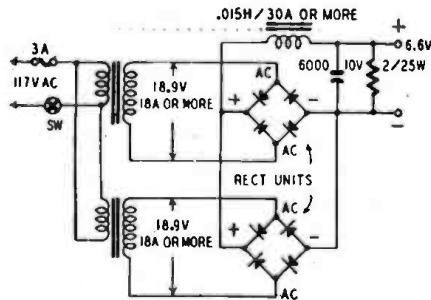
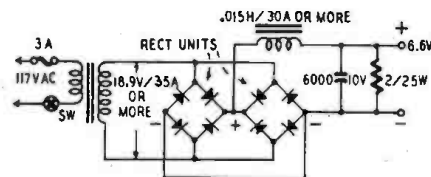

Fig. 1—Paralleled outputs supply 40 amperes.
Fig. 2—Rectifier has single input and output.
**A.** Since each of the rectifier units you have will deliver only 20 amperes, it is necessary that you connect them in parallel, it is recommended that they be operated from separate transformers and their outputs connected in parallel as shown in Fig. 1. With this circuit you can draw up to 40 amperes from the supply. If you do not care to use the two transformers, then use the circuit in Fig. 2 or 3.